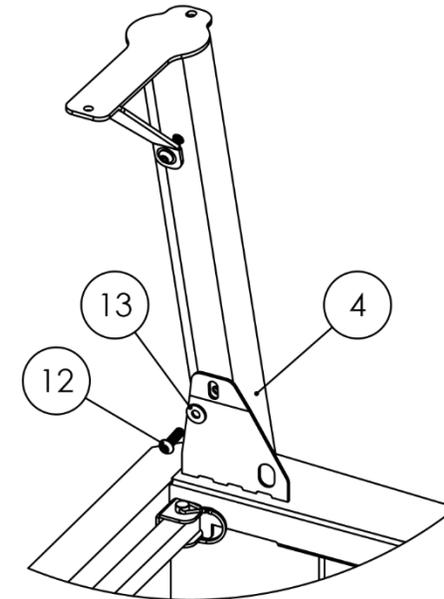

Figure 13
8. **Install the Legs onto the Base Rails.** To install the Legs (Item No. 4), align the angular projection on the Base Rails with the bottom of each Leg. Secure each Leg by threading a 1.25" Button Head Cap Screw (Item No. 12) and a Metal Washer (Item No. 13) between the holes of the gusset, the Leg and the angular projection. After you are done, the Leg and its assembly should appear as shown in Figure 13. You may find it useful to lightly tighten the screws for now, as it will allow you to align the rack once the Crossbars (Item No. 2) are mounted.